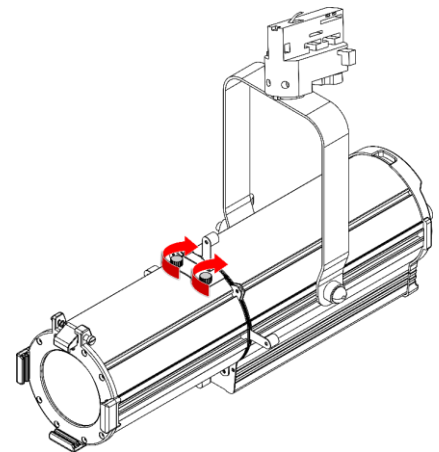

Fig. 26
- 07) Tighten the 2 **cover plate thumbscrews (12)** to secure the **gobo slot cover plate (11)** at its place (see Fig. 26).